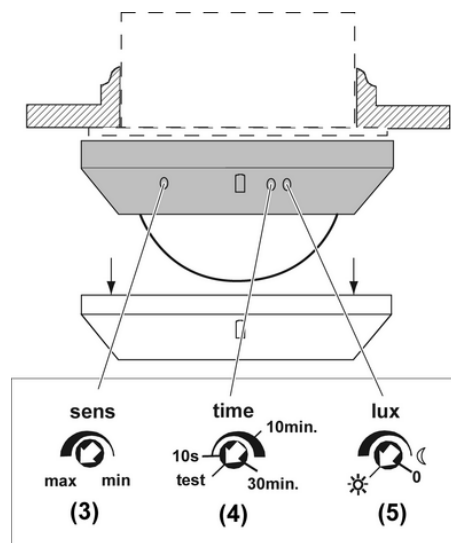

Figure 4: Test setting
- Pull off push-on cover (10)
- Pull off decor ring (9).
- Set **sens** adjuster (3) to **max**(figure 4).
- Set **time** adjuster (4) to **test**.
- Set **lux** adjuster (5) to ☀ for brightness-independent switching.
- Turn the **time** adjuster (4) to the required position (figure 4).
- Set **time** adjuster (4) to **test**(figure 4).
- Turn **sens** adjuster (3) slightly in the **min** direction, because at maximum sensitivity unwanted switching may occur.
- i** To make the short-time operation independent of brightness, turn **lux** adjuster (5) to ☀.
- Turn the **lux** adjuster (5) to the required position (figure 4).